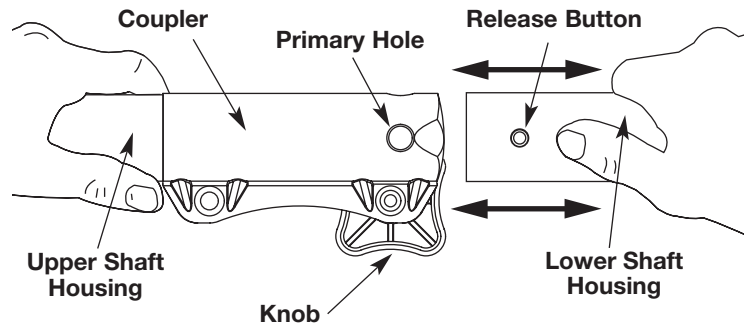

Fig. 2
3. While firmly holding the add-on, push it straight into the coupler (Fig. 2).
CAUTION: Lock the release button in the primary hole (Fig. 2) and securely tighten the knob before operating this unit.
2. Press and hold the release button (Fig. 2).
3. While firmly holding the upper shaft housing, pull the hedge trimmer attachment out of the coupler (Fig. 2).